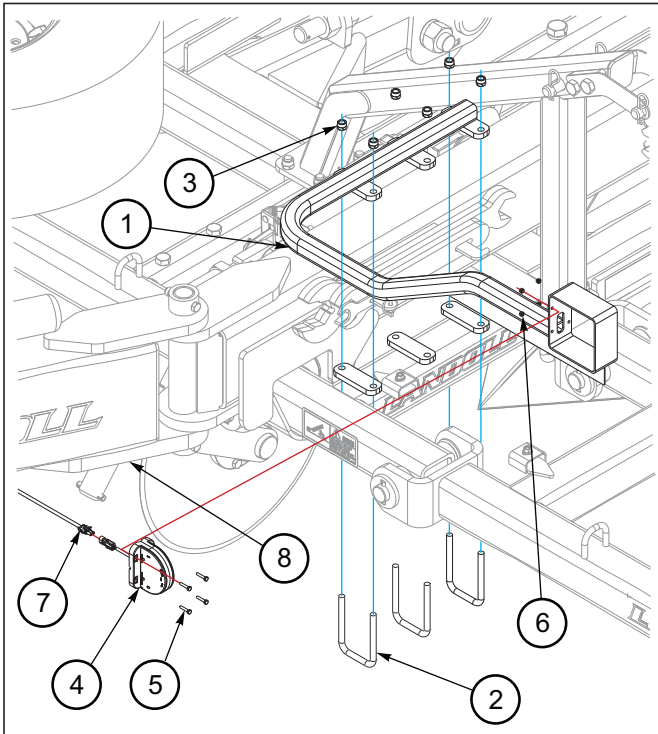
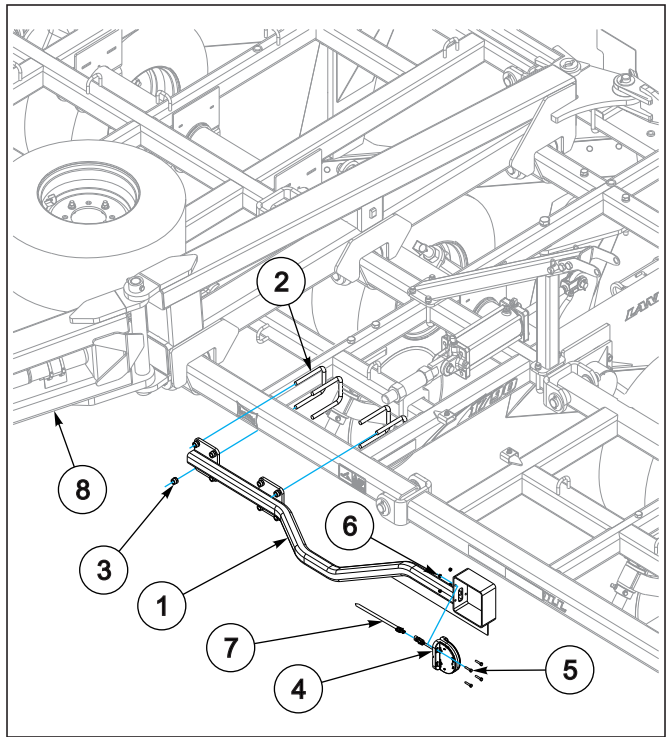

Figure 3-7: Front Light Bracket Assembly 1760
Figure 3-8: Front Light Bracket Assembly 1770, 1790 & 1710
1. When the LH & RH hitch weldments (8) are rotated back around to field position, the LH & RH light brackets (1) may be installed in correct location shown **See Figure 3-7** for 1760-35' and **See Figure 3-8** for 1770-35', 1790-52', 1710-64'.